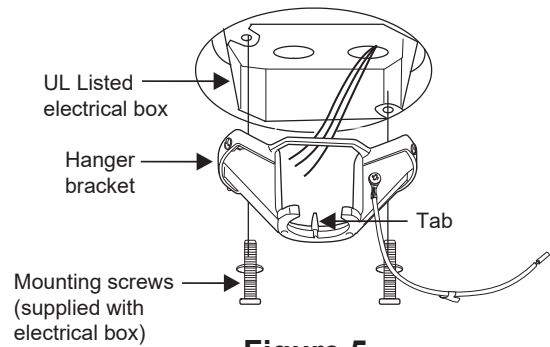

Figure 5
Step 1. Pass the 120-volt supply wires through the center hole in the ceiling hanger bracket as shown in Fig. 5.
1. Pass the 120-volt supply wires through the center hole in the ceiling hanger bracket as shown in Fig. 5.